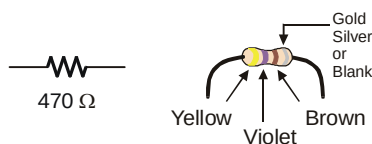
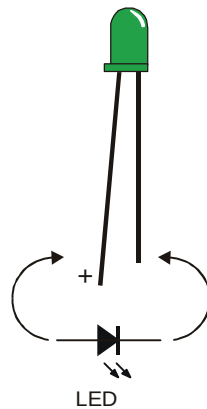

Figure 2-2
Figure 2-4
A *resistor* is a component that “resists” the flow of electricity. This flow of electricity is called *current*. Each resistor has a value that tells how strongly it resists current flow. This resistance value is called the *ohm*, and the sign for the ohm is the Greek letter omega: Ω . Later in this book you will see the symbol $k\Omega$, meaning kilo-ohm, or one thousand ohms. The resistor you will be working with in this activity is the $470\ \Omega$ resistor shown in Figure 2-2. The resistor has two wires (called *leads* and pronounced “leeds”), one coming out of each end. There is a ceramic case between the two leads, and it's the part that resists current flow. Most circuit diagrams that show resistors use the jagged line symbol on the left to tell the person building the circuit that he or she must use a $470\ \Omega$ resistor. This is called a *schematic symbol*. The drawing on the right is a part drawing used in some beginner level Stamps in Class texts to help you identify the resistor in your kit, and where to place it when you build the circuit.
Figure 2-4 shows an LED's schematic symbol and part drawing. An LED has two terminals. One is called the *anode*, and the other is called the *cathode*. In this activity, you will have to build the LED into a circuit, paying attention to make sure the leads connected to the anode and cathode are connected to the circuit properly. On the part drawing, the anode lead is labeled with the plus-sign (+). On the schematic symbol, the anode is the wide part of the triangle. In the part drawing, the cathode lead is the unlabeled pin, and on the schematic symbol, the cathode is the line across the point of the triangle.
Identifying the parts: In addition to the part drawings in Figure 2-2 and Figure 2-4, you can use the photo on the last page of the book to help identify the parts in the kit needed for this and all other activities.
- ✓ Use Figure 2-4 to decide which lead is connected to the LED's cathode. Look for the shorter lead and the flat spot on the plastic part of the LED.